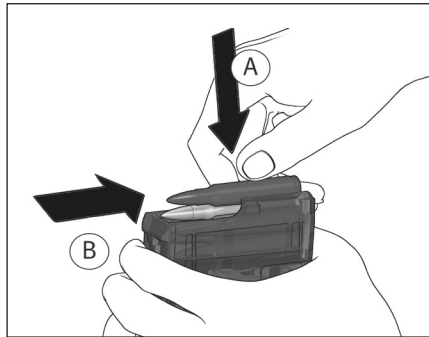

Fig. 7 – Loading a magazine by hand
**NOTICE** Do not attempt to load more than the prescribed number of cartridges into the magazine. Do not alter the shape of the magazine housing, follower or spring. To do so may cause stoppages or the magazine may not seat properly in the firearm. Magazines may be loaded by hand, one round at a time, or quickly loaded using a magazine loader. Loading a magazine by hand is depicted below (Fig. 7).